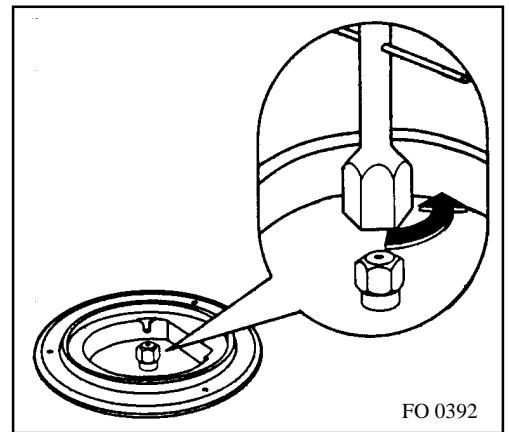

Fig. 28
- Using a socket spanner 7 unscrew and remove (fig. 28) the nozzles replacing them with the ones required for the kind of gas in use (see table 2).